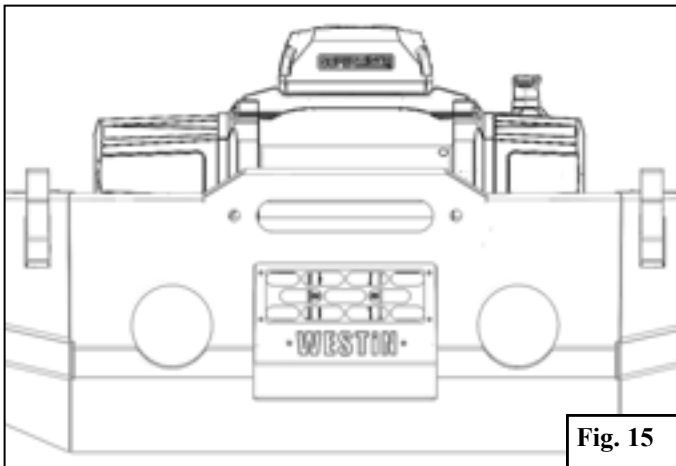

Fig. 15
- This bumper is compatible with the Superwinch SX12SR Winch 12V 12000LB Winch (**Part # 1712201**), **Figure 15**.